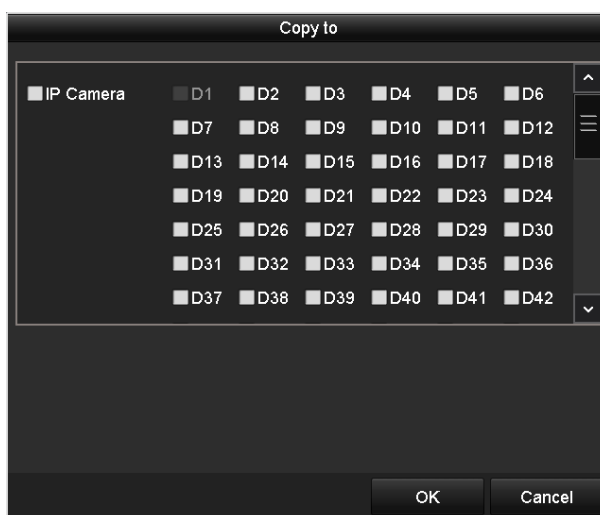

Figure 13-17 Copy Settings to Other Camera(s)
Step 4 Enter the storage capacity in the text fields of **Max. Record Capacity (GB)** and **Max. Picture Capacity (GB)**.
Step 5 You can copy the quota settings of the current camera to other cameras if required. Click the **Copy** button to enter the Copy Camera menu, as shown in Figure 13-17.